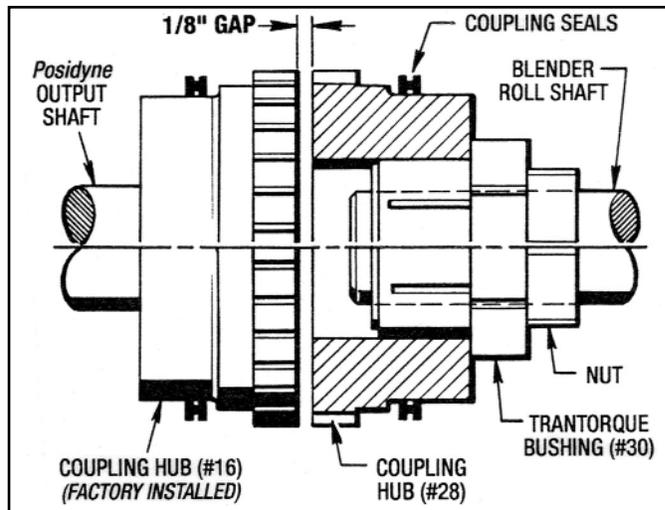

Figure 3 - Coupling Hub Installation
(See Figure 3)
4. Take the loose Split Coupling (#29) apart and remove the remaining sealing ring. Place it on the Coupling Hub (#28) as shown in Figure 3.
5. Position the assembly approx. at the desired location on the shaft and hand tighten the nut (clockwise) until the assembly becomes fairly snug on the shaft. (See Figure 3).
WARNING - Do not hammer or use any type of impact to force the Locking Bushing on to the shaft. The shaft must fully engage the gripping area of the Locking Bushing as shown in Figure 3.
7. Loosen the Locking Bushing (#30) and position the Hub (#28) 1/8" from the face of the other Coupling Hub (#16) as shown in Figure 3.